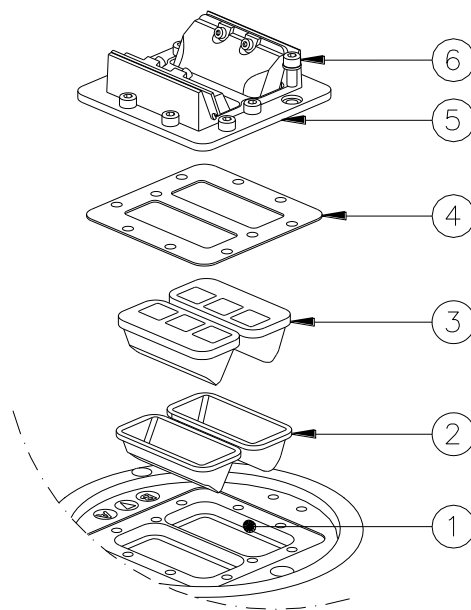

Figure 25 - Prism Replacement
- remove the mounting plate and prism holder gasket (Figure 25 – n°4-5)
- remove the old prism and the gasket (Figure 25 – n°3-2)
- place a new gasket (Figure 25 – n°2) in the prism cavity on the dome (Figure 25 – n°1)
- position and press by hand the prism (Figure 25 – n°3) in the relevant seat
- position the prism holder gasket and the mounting plate (Figure 25 – n°4-5) and fasten it with the relevant screws HSCS M5x12 (Figure 25 – n°6) following the numbers marked on the mounting plate, tightening torque is 2.5 Nm